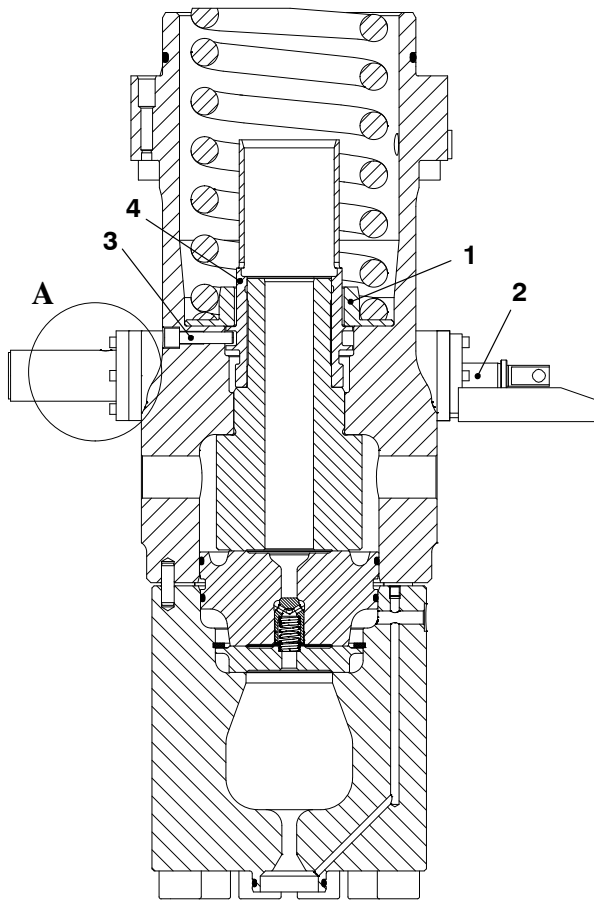

Fig. 17
1) Turn the fuel pump into the position shown in Fig. 17.
2) Put the toothed rack (2) in position.